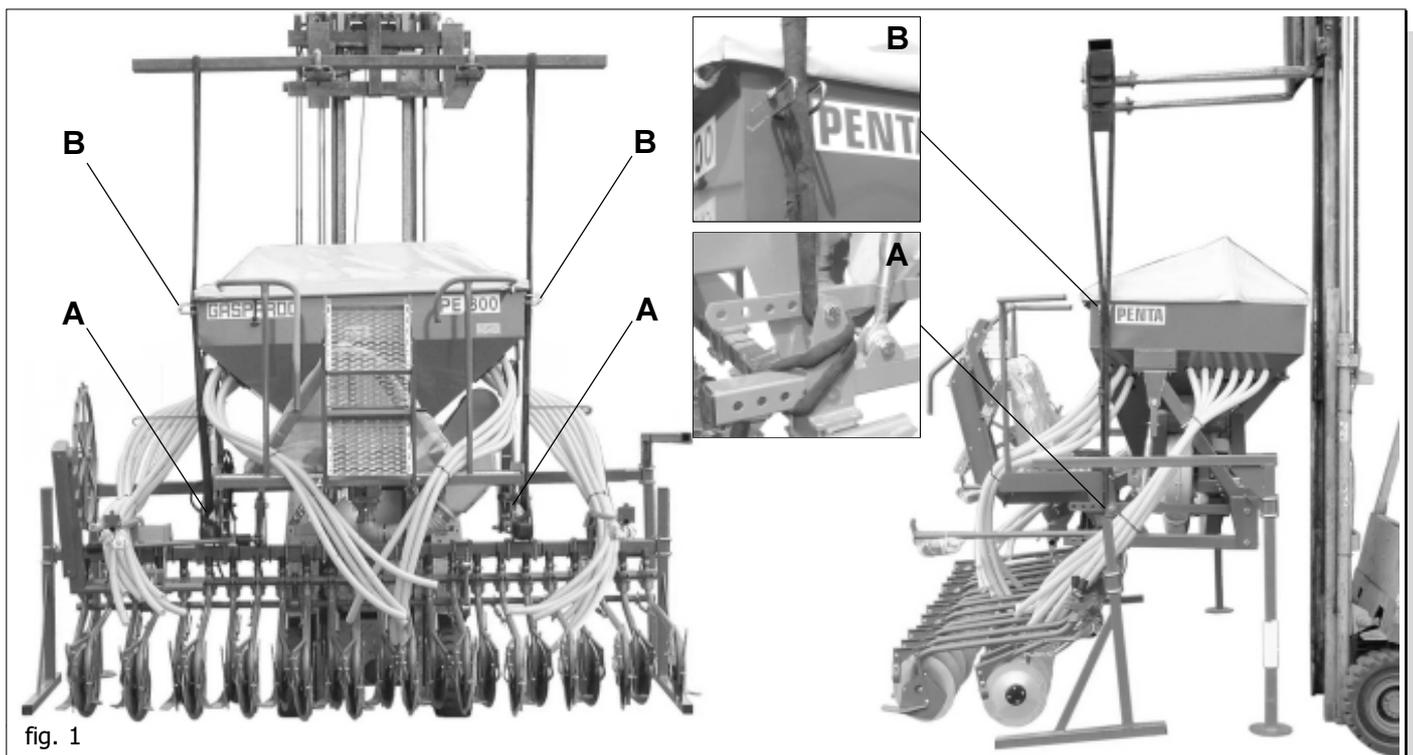
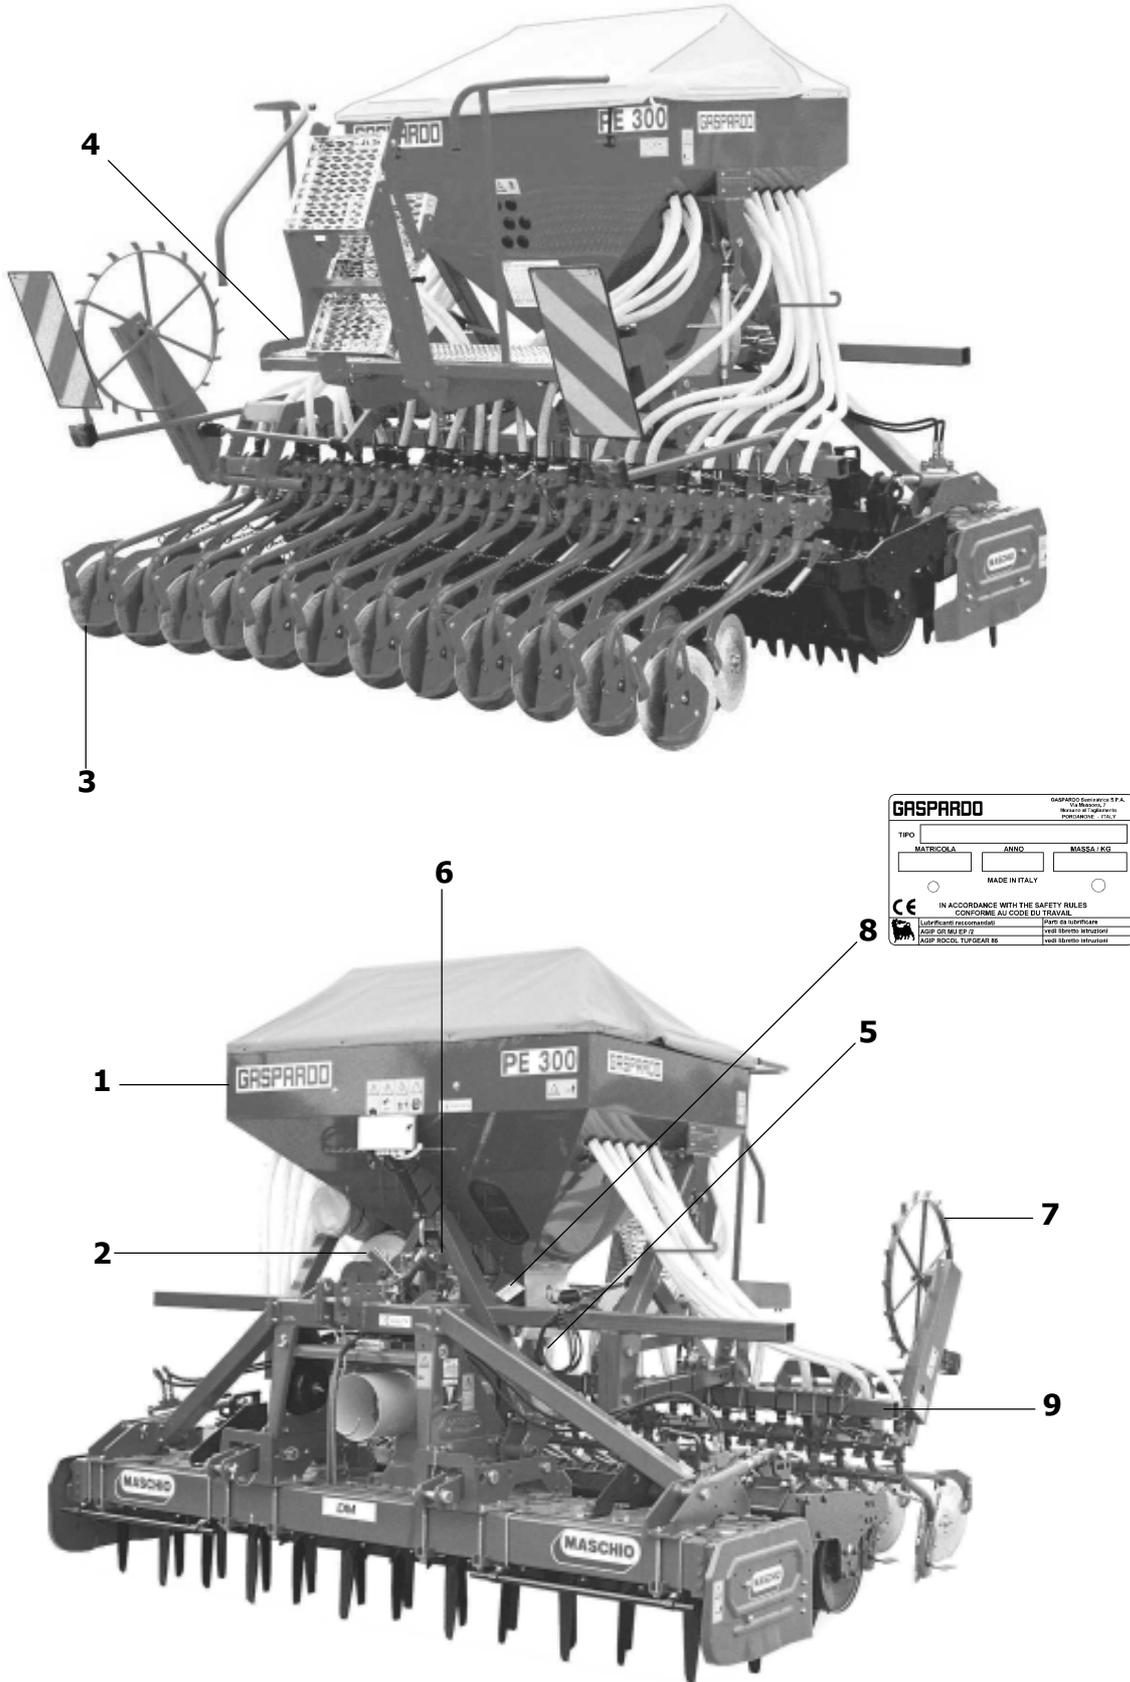

fig. 1
fig. 2
Each single piece of equipment, is equipped with an identification plate (8 Fig. 2), which bears:
If the machine is handled, it must be lifted by hooking onto the appropriate holes (A) (Fig. 1) with a suitable winch or crane of sufficient capacity. Because of the danger involved, this operation should be carried out by trained and responsible personnel. The mass of the machine is on the identification Plate (8 Fig. 2). Stretch the rope to keep the machine level.
The hook points can be detected by finding the «hook» symbol (8 Fig. 2).